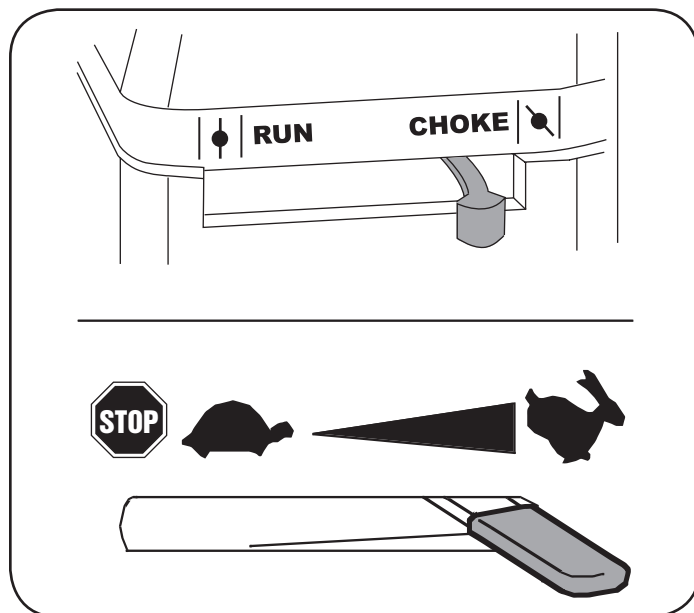

Figure 10
4. Move the choke lever on the engine to CHOKE position. (A warm engine may not require choking.) See Figure 10.
5. Move throttle control to START/RUN (Rabbit) position. See Figure 10.